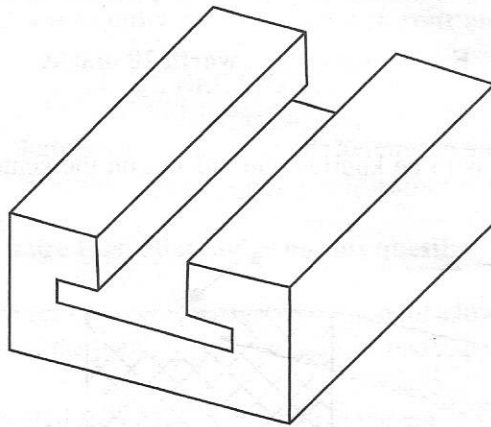

Figure 3. T-slot
3. Figure 3 shows a component with a T-slot which is to be produced on the milling machine.